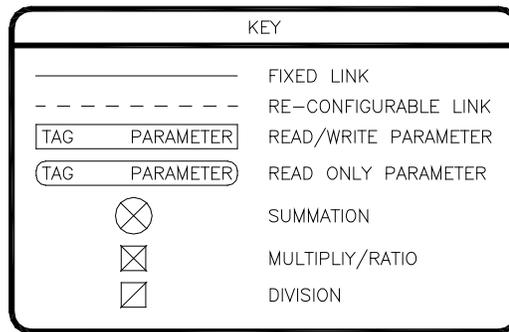

Figure 12: Block Diagram Key
The MicroManager's parameters are grouped into numerous functional blocks. The blocks can be interconnected via links in different configurations to perform different application tasks. Please refer to drawing D13306 Sheet 1 on page 48 for an overall view of all the blocks. Each parameter has a descriptive name and a tag (or number) identifier. The following sections contain each software block diagram and descriptions of each parameter function. Refer to Figure 12 below for key conventions that are used in the block diagrams. Each parameter is one of three types: Read-Only (RO), Inhibit Change while Running (ICR), or Read-Write (RW). ICR parameters can be changed only when the unit is not in the Run mode. Remember that parameter changes must be saved by setting P1 to 1.